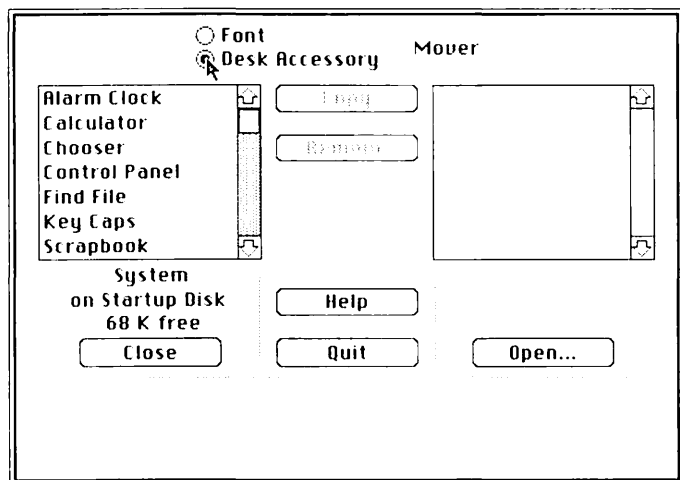

Figure 2-9
2. Click Desk Accessories in the Font/DA Mover. The font list is replaced by a list of desk accessories. (See Figure 2-9.)